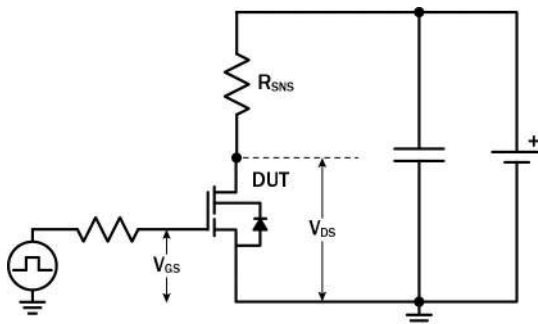

Figure 19. Dynamic $R_{DS(on)eff}$ Test Circuit
- a. Dynamic on-resistance; see Figures 19 and 20 for test circuit and conditions